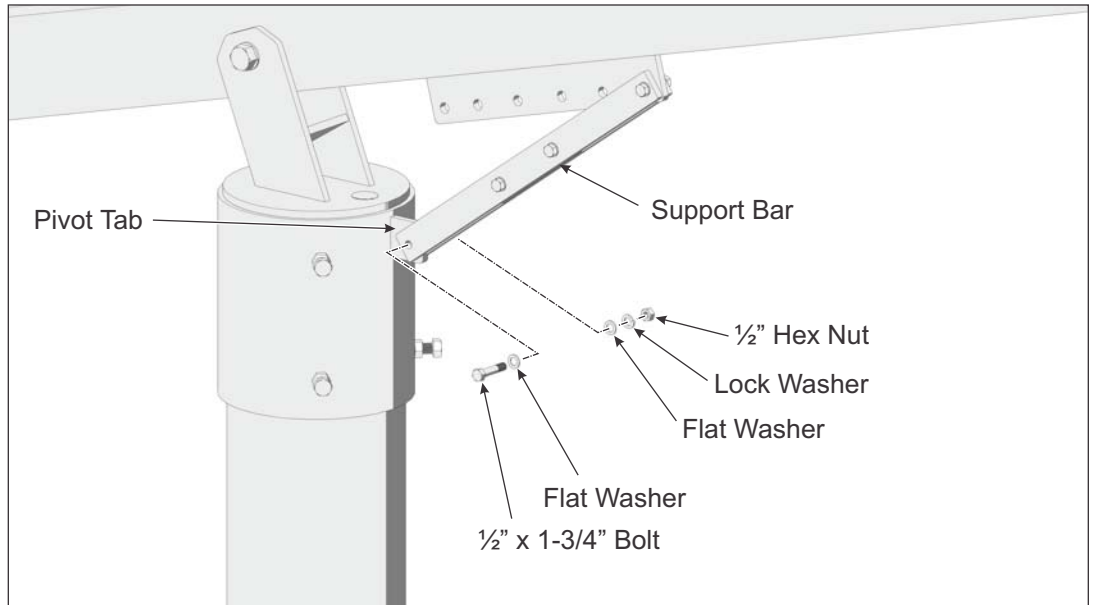

Figure 2-3: Securing Support Bar to Mounting Sleeve
- F. Pivot the Strongback and the Support Bar to align the mounting holes of the Support Bar with its Pivot Tab on the Mounting Sleeve. Slide the Support Bar over the Pivot Tab. Insert the 1/2" x 1-3/4" bolt and one flat washer thru the Support Bar and Mounting Tab and secure it with the remaining flat washer, lock washer and hex nut. **Torque hardware on both ends of Support Bar at 72-80 ft.-lbs.** (See Figure 2-3)